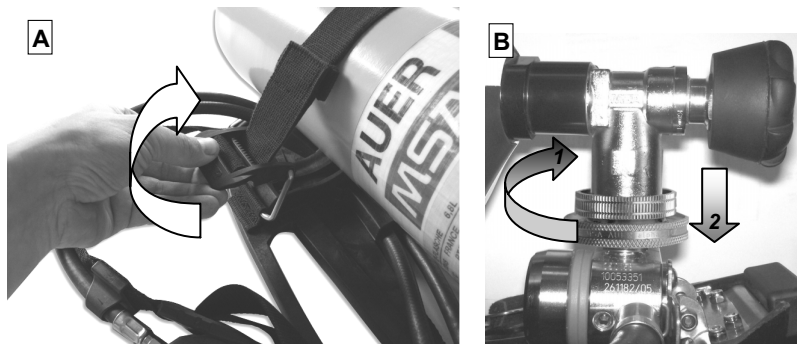

Fig. 21 Removing a cylinder with short cylinder strap
- (2) Hinge cylinder separator (2) into a vertical position until it catches.
- (3) If there is no T-piece connected to the pressure reducer (12), check gaskets on the pressure reducer and T-piece and thread in T-piece loosely.
- (4) Open cylinder buckle on the cylinder strap eliminating any tension and extend the strap (→ Fig. 21 A or Fig. 22 A).
- (5) Push one compressed air cylinder through the cylinder retaining strap so that the cylinder valve points to the T-piece, and lies on one of the outer supports.
- (6) Loosely thread the cylinder valve onto the T-piece.
- (7) Push a second compressed air cylinder through the cylinder retaining strap so that the cylinder valve points to the T-piece, and lies on the outer support.
- (8) Loosely thread the second cylinder valve onto the T-piece.